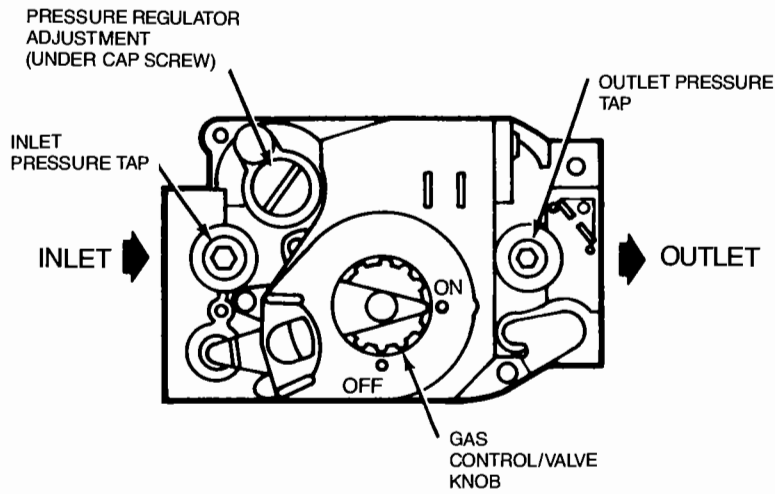
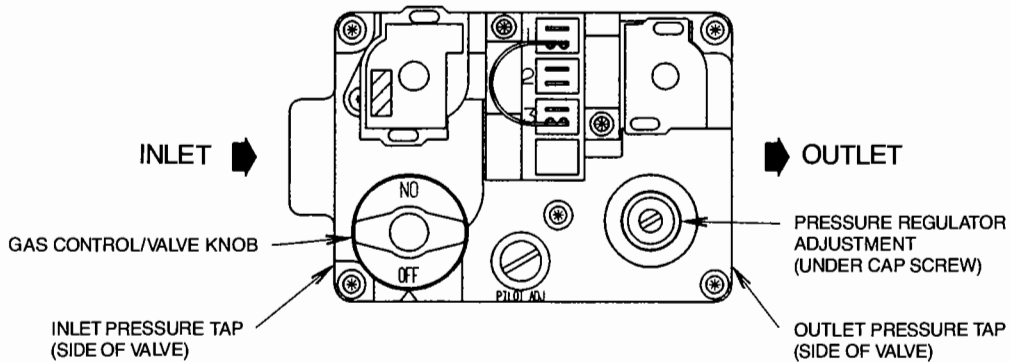
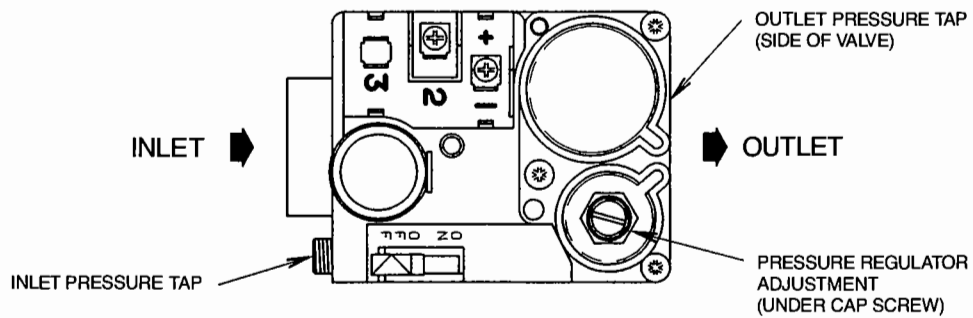

FIG. 14A — HONEYWELL
FIG. 14B — WHITE RODGERS
FIG. 14C — ROBERTSHAW (GRAYSON)
6. Turn the gas control knob clockwise to the "Off" position for either the White Rodgers 36-E gas valve (Fig. 14B) or the Honeywell VR-8205 gas valve (Fig. 14A), for the Robertshaw 7200 gas valve push in and slide the lever to the "Off" position (Fig. 14C). Do not force.
7. Wait five (5) minutes to clear out any gas. Then smell for gas, including near the floor.
8. If you smell gas following the 5 minute waiting period in Step 7, follow the instructions on the cover of this manual. If you do not smell gas, then turn the gas control knob counterclockwise to the "On" position for either the White Rodgers 36-E gas valve (Fig. 14B) or the Honeywell VR-8205 gas valve (Fig. 14A), for the Robertshaw 7200 gas valve push in and slide the lever to the "On" position (Fig. 14C). Do not force.
A tapped opening is provided in the gas valve to facilitate measurement of the manifold pressure. See the "Outlet Pressure Tap" in Fig. 14A, 14B and 14C. A "U Tube" manometer having a scale range from 0 to 12 inches of water should be used for this measurement. The manifold pressure must be measured with the burners operating.
3. Turn the gas control knob clockwise to the “Off” position for either the White Rodgers 36-E gas valve (Fig. 14B) or the Honeywell VR-8205 gas valve (Fig. 14A). For the Robertshaw 7200 gas valve, push in and slide the lever to the “Off” position (Figure 14C). Do not force.